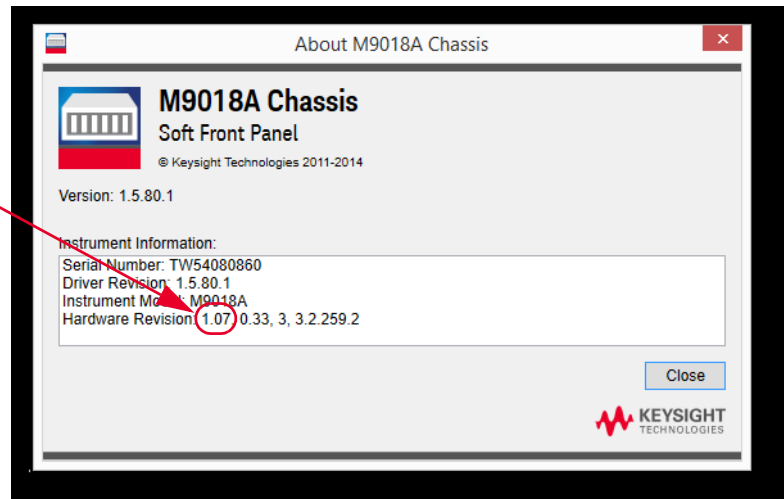

Figure 6 Correct Updated Firmware Revision
- 14** On the host PC, start the M9018A Soft Front Panel (SFP). Navigate to **Help > About**. Verify that the Hardware Revision is now 1.07. See Figure 6 below.